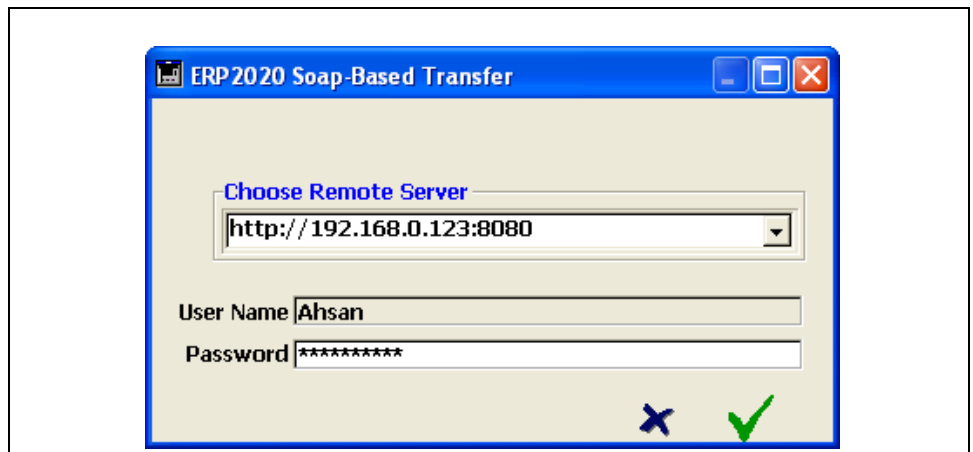

FIGURE 21.8
3) When the Client (logged into the Master-Server) requests data from Slave-server a dialog requesting the Slave-Server URL, User-Name and Password is presented. The User-Name and Password must exist and match with the User-Name and Password **stored on the Slave-Server**. This authentication must be cleared before the data from the Slave-Server will be updated. The interface dialog is shown below in Figure 21.8 on page 21.31